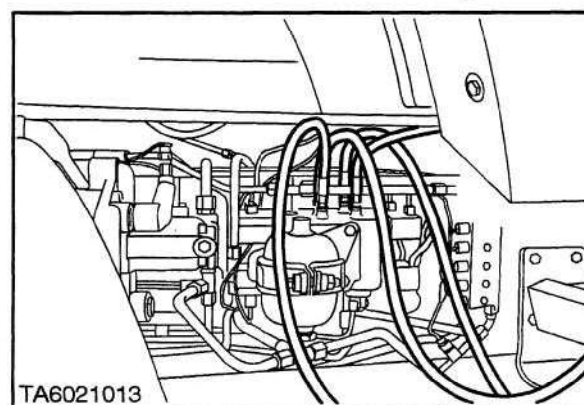

Figure 4-2-13
3. Hose, (Finis Code 3936707), (0-600 lbf/in², 0-40 bar), four if available, into each of the synchronizer pressure test points, located in the transmission side cover, Figure 4-2-13.